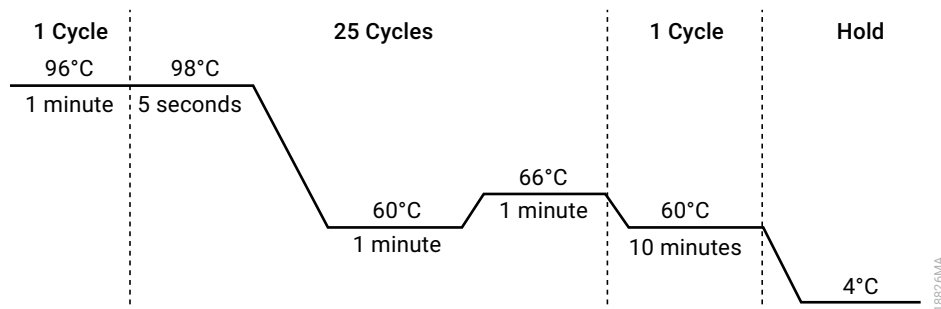

Figure 29. Thermal cycling protocol for the ProFlex® PCR System.
- Select and run the protocol provided below and in Figure 29. The total cycling time is approximately 80 minutes.